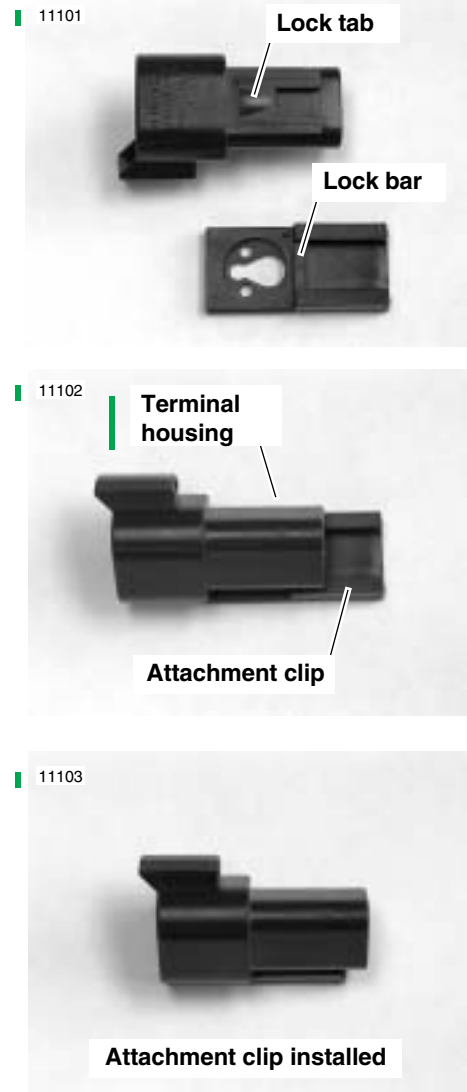

Figure 5-11. Attachment Clip Installation
- See Figure 5-11. Fit the attachment clip to the terminal housing, if removed. Place large end of slot on attachment clip over T-stud on frame. Push assembly forward to engage small end of slot.